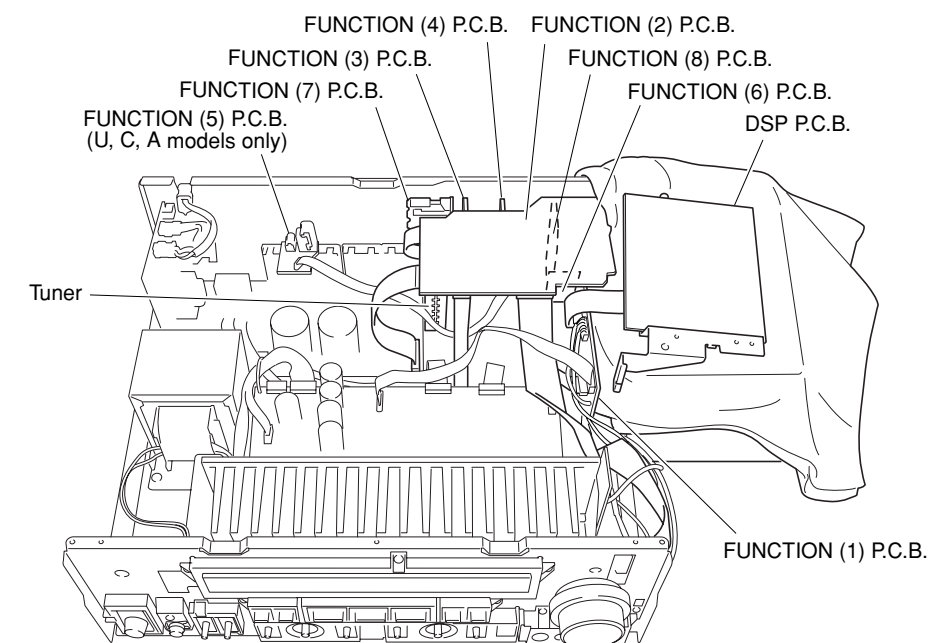

Fig. 4
- Remove FUNCTION (1) ~ (8) P.C.B.s and the Tuner. (Fig. 4)